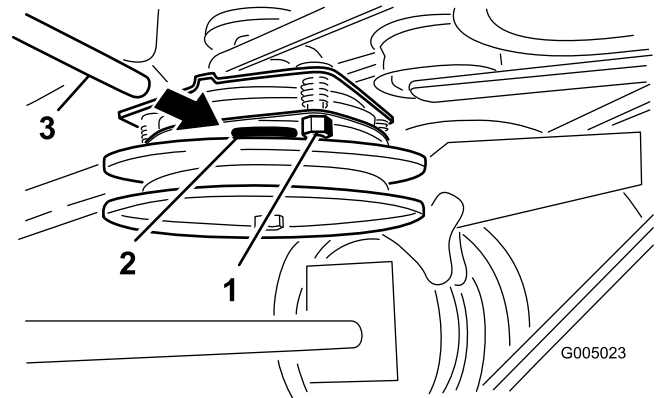

Figure 35
2. Tighten the lock nuts until there is slight binding on the feeler gauge but it can be moved easily within the air gap (Figure 35).